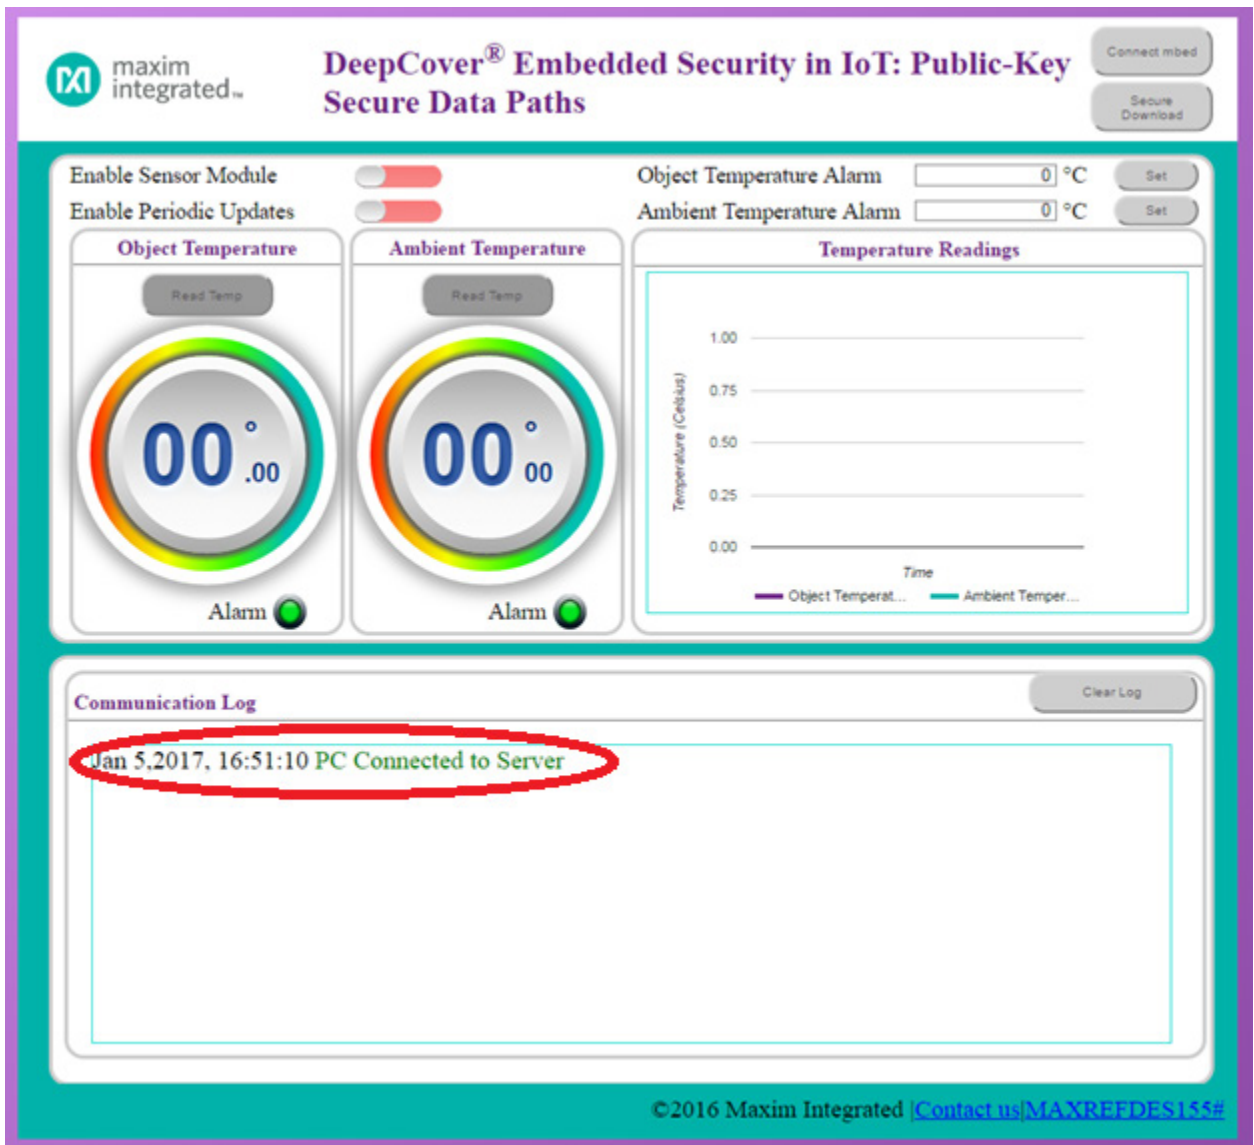

Figure 9. Verify the PC Connected to Server.
6. Verify the PC is connected to the web server as shown in **Figure 9**.